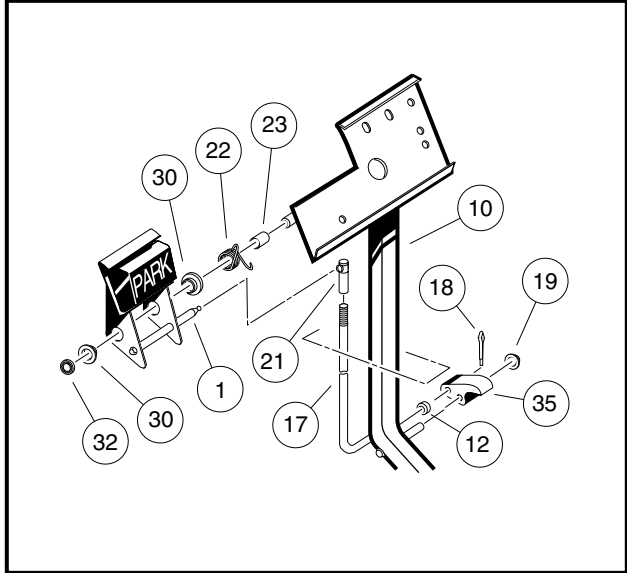

Figure 5-4 Park Brake Assembly
(Figure 5-4,
- 3.2. To remove the park brake pedal (1), remove the push retainer nut (32), disconnect the torsion spring (22) (**Figure 5-4, Page 5-4**) and slide the pedal off of the shaft. **See preceding NOTE.**
1. From the bottom side of the floorboard, insert the park brake rod (17) through the brake pedal assembly opening as shown (**Figure 5-4, Page 5-4**). Then install the park brake pawl (35) onto the shaft on the brake pedal assembly (10) and also insert the park brake rod (17) into the park brake pawl.
2. Install the push nut (19) on to the park brake pawl shaft.
3. Install the spacer (23) and torsion spring (22) on the park brake pedal shaft on the brake pedal assembly.
4. Install the two bushings (30) in the park brake pedal and position the park brake pedal on the shaft on the brake pedal assembly weldment (10) (**Figure 5-4, Page 5-4**). Then attach the ends of the torsion spring to the park brake pedal and to the brake pedal weldment as shown (**Figure 5-5, Page 5-6**).
5. Install the push nut (32) on the park brake pedal shaft (**Figure 5-4, Page 5-4**).
6. Connect park brake rod (17) with ball joint (21) to the ball stud on the park brake pedal assembly (**Figure 5-4, Page 5-4**).